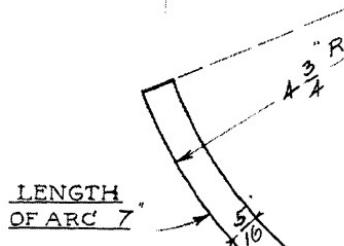

FIG. 3
4. Bend the base strip to the curvature, as shown in Fig. 3.